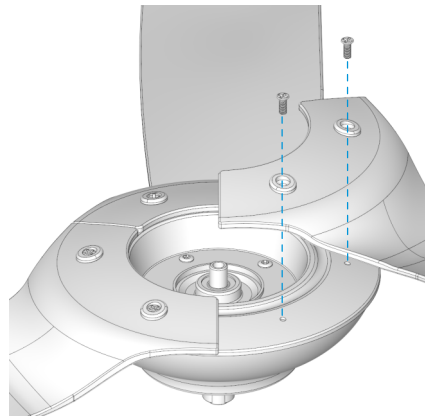

Fig. 1.1
1.1 Locate 6 blade attachment screws and washers included in the hardware pack. Use these screws to firmly attach each blade to the motor hub, as demonstrated in Fig. 1.1.